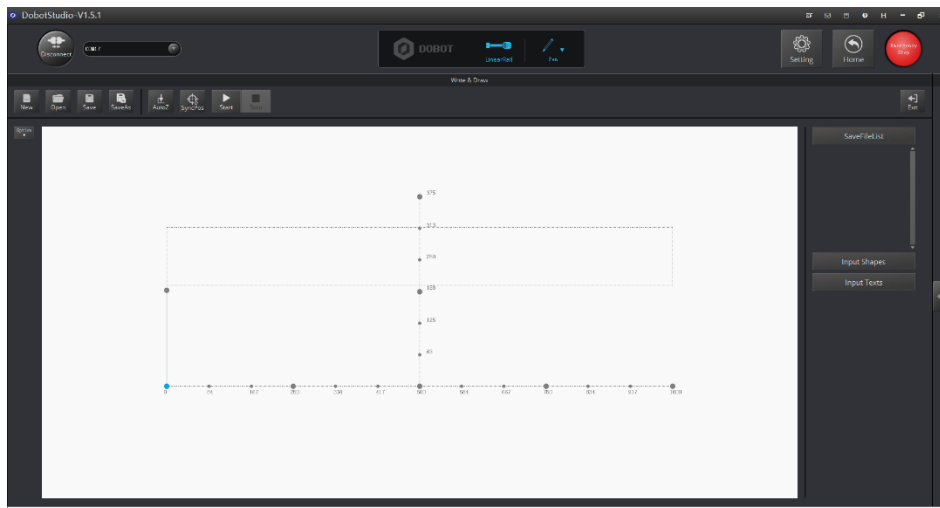

Figure 1.14 LinearRail operation panel
Step 4 Click **Write&Draw** to enter the **Write&Draw** page. As shown in Figure 1.14.